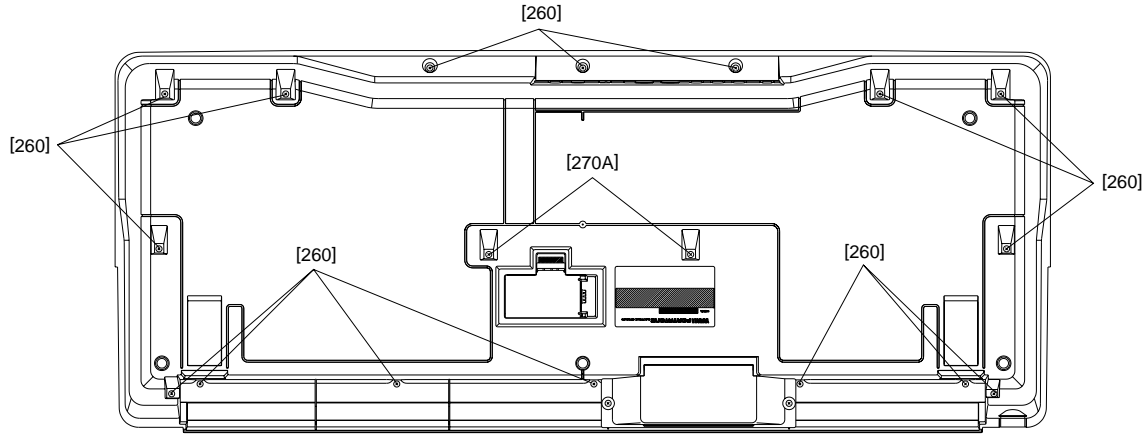

Fig.1
- 1-1 Remove the sixteen (16) screws marked [260] and the two (2) screws marked [270A]. The lower case assembly can then be removed. (Fig.1)